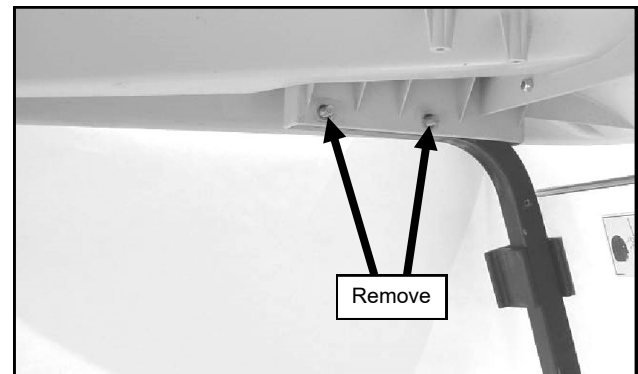

Fig. 1.2 (front roof bolts - left side)
**1.2** Remove and discard the (2) sets of hardware found on the front half of the factory roof, per figure 1.2.